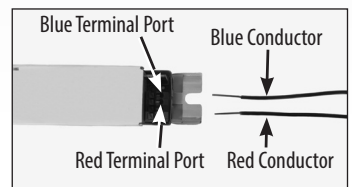

Figure 3: Connecting the Red and Blue Conductors to the Terminal Ports on the LED Driver.
- When the location of the LED Driver is determined, feed the Red and Blue Conductors to each of the designated "color-coded" ports, press the respective button down, and push the stripped copper lead for each conductor. The two (2) ports bring power from the LED Driver to the LED Strips. See Figures 3 and 4.